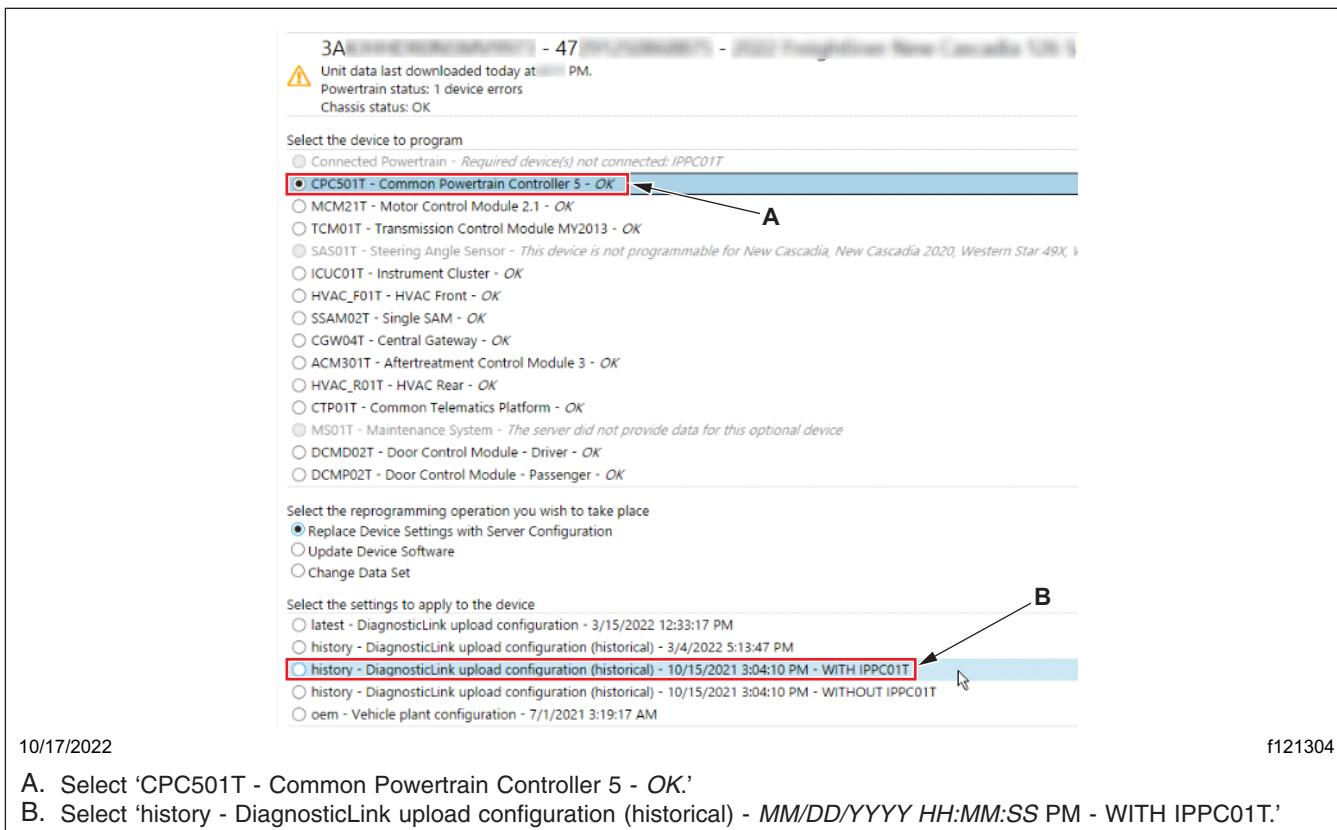

Fig. 18, Selecting the Device Configuration
22.1 Select 'CPC501T - Common Powertrain Controller 5 - *OK*' as the device to program. See **Fig. 18**.
22.2 Select 'history - DiagnosticLink upload configuration (historical) - *MM/DD/YYYY HH:MM:SS PM - WITH IPPC01T*' as the configuration to apply to the device. See **Fig. 18**.